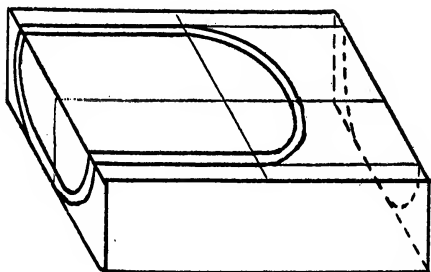

Fig. 53. Layout of Drip Cup
3. Lay off the outline of the cup on the face and ends. (Fig. 53.)